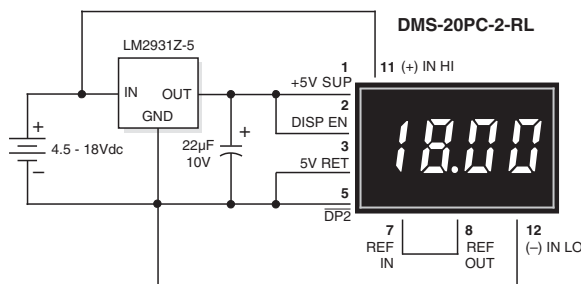

Figure 8. 4.5-18V Power Supply Monitor
- 6. Power Supply Monitoring:** One of the most common digital panel meter applications involves monitoring the output voltage of the system power supply — often this supply also powers the meter itself. The low-power, red LED DMS-20PC-2-RL can be configured to allow power supply monitoring over the range of 4.5-18Vdc. The circuit in Figure 8 uses a low-drop-out, three-terminal regulator (LM-2931Z-5, available from National Semiconductor) to provide regulated 5V-power to the meter.